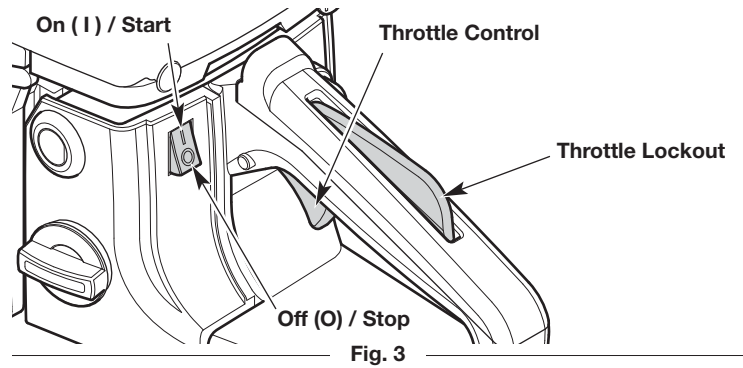

Fig. 3
5. Move the On/Off switch to the **On** position (Fig. 3).
**NOTE:** DO NOT touch the throttle control until step 14 (Fig. 3).
8. **DO NOT** touch the throttle control (Fig. 3). Set the unit on a flat, level surface. Clear the area of any objects that could contact the saw chain.
2. Move the On/Off switch to the **Off** position (Fig. 3). Wait for the saw chain to come to a complete stop.